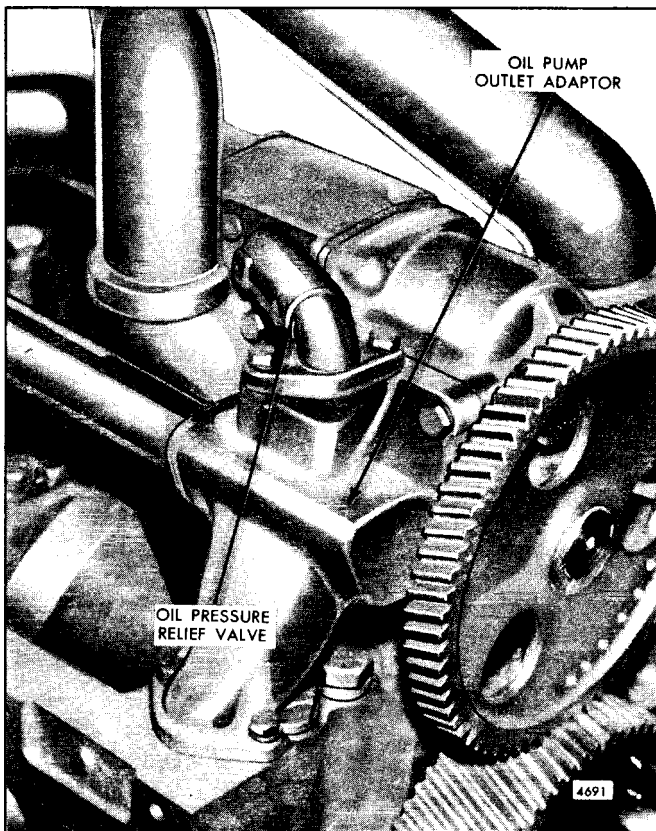

Fig. 4 - Oil Pump Outlet Adaptor (12V and 16V Engines)
7. Remove the six bolts and lock washers which secure the oil pump outlet adaptor (Fig. 4) to the oil pump and the cylinder block. Remove the adaptor and pressure relief valve as an assembly. Discard the gasket and seal ring.